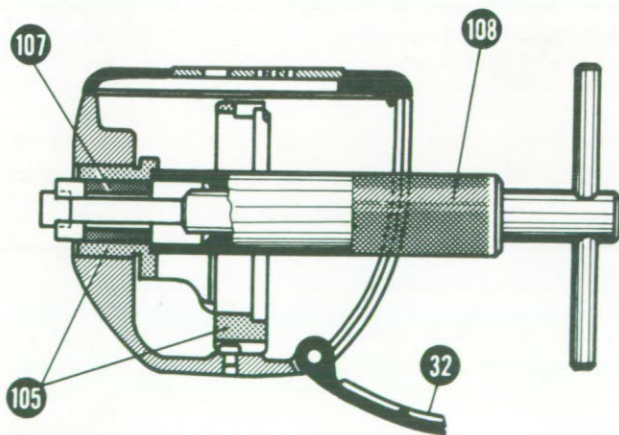

Fig. 34
open arm and the pressure plate placed onto the spike. Next, the pressure nut is turned towards the hub of the race until it fits well. Turning the handle clockwise, the bushing (107) slides backwards. In order to reverse, introduce gauge handle from side of the open arm hinged cover (Fig. 34).